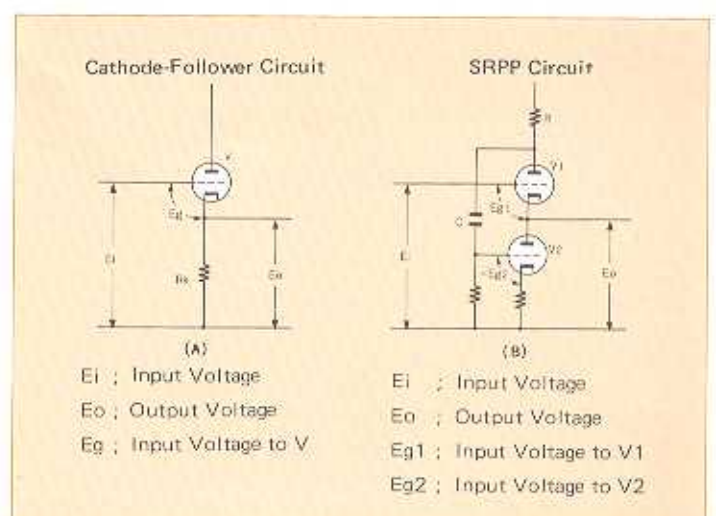

Fig. 2
Fig. 2 (A) shows conventional cathode-follower and (B) shows the SRPP circuit adopted in the CL32. For the SRPP circuit, V2 is placed instead of the cathode-follower R_K . And the grid of V2 is controlled by the reverse-phased input from the V1 output voltage, therefore this circuit configuration can be regarded as a sort of cathode-follower.